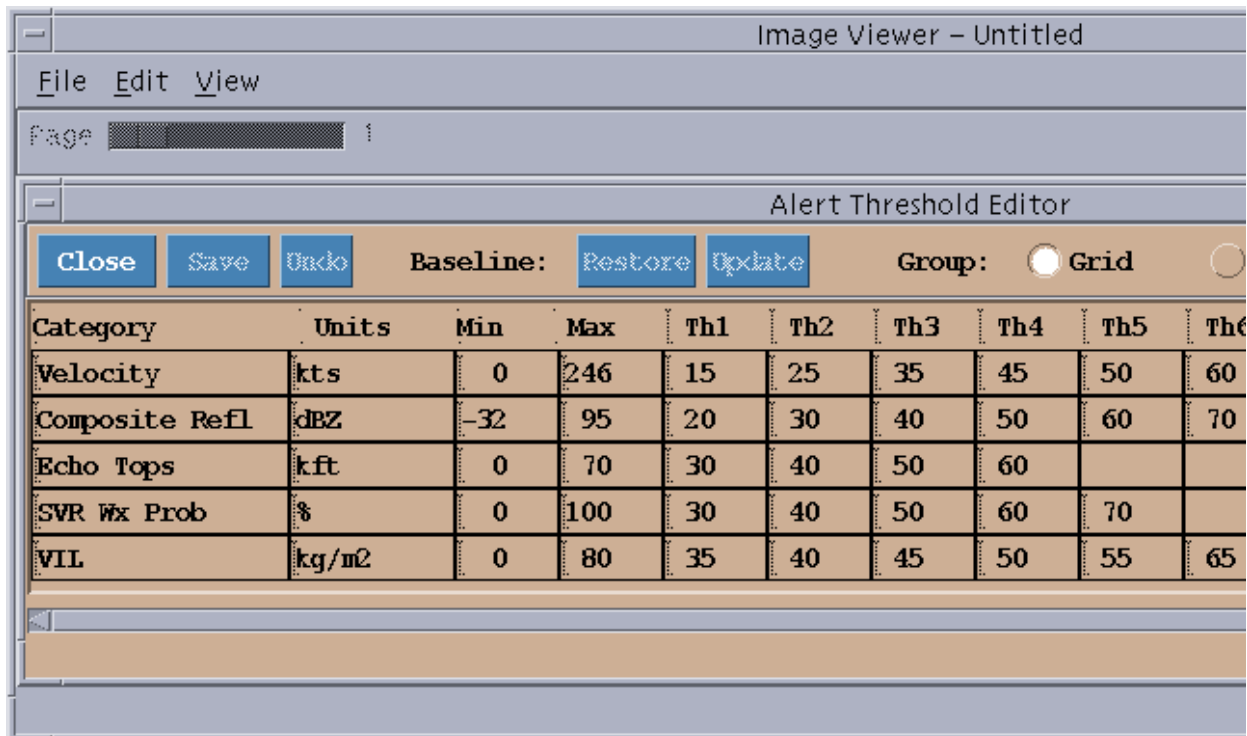

Figure 2 Image Viewer - Untitled Window
10. Click the crosshair pointer inside the window to be captured. The Snapshot window will disappear and then reappear 8 seconds later. The message at the bottom of the Snapshot window will read `Snap succeeded` once the snapping process is complete. The Image Viewer - Untitled window (see Figure 2), displaying the newly snapped image, and an Image Viewer - Palette window will also appear.